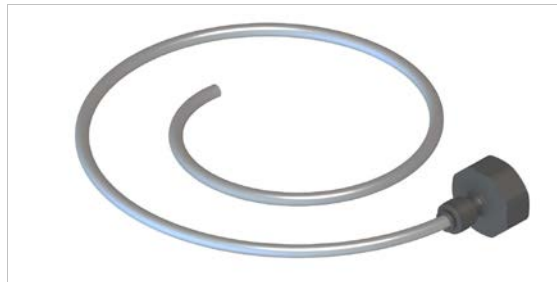

Figure 7.4.5.1.1: Flushing set for connecting to the water tap (3/4")
<p>Use the flushing set (Figure 7.4.5.1.1) to flush the pressure vessel (flushing set included in the scope of delivery).</p>
- Place the flushing set (Figure 7.4.5.1.1) and the maintenance hose from the scope of delivery in a position ready for use.